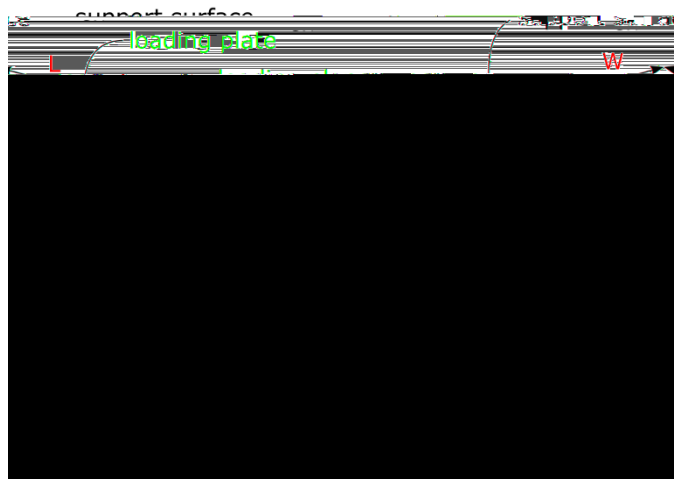

Figure 1. Bridge schematic (not to scale)
- b. **Length:** The Bridge (Figure 1) must span (S) a 305 mm (12.0 inches) canyon opening. The bridge must sit on at least 25mm (1.0 inch) at each end, which means the overall length (L) must be at least 355mm (14.0 inches.) The overall length (L) of the bridge cannot exceed 406 mm (16.0 inches). Bridges that are too short will not be tested.
- c. **Width:** The bridge must be no wider (W) than 70mm (2.75 inches). The width is measured at the loading surface. There is no minimum width. Bridges which do not meet these criteria will be penalized.